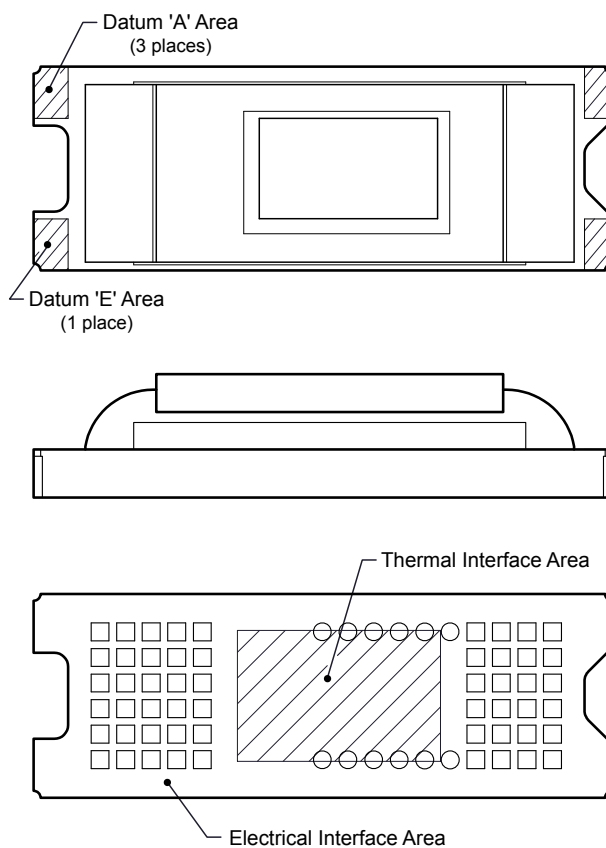

Figure 5-14. System Interface Loads
(1) Uniformly distributed within area shown in Figure 5-14.